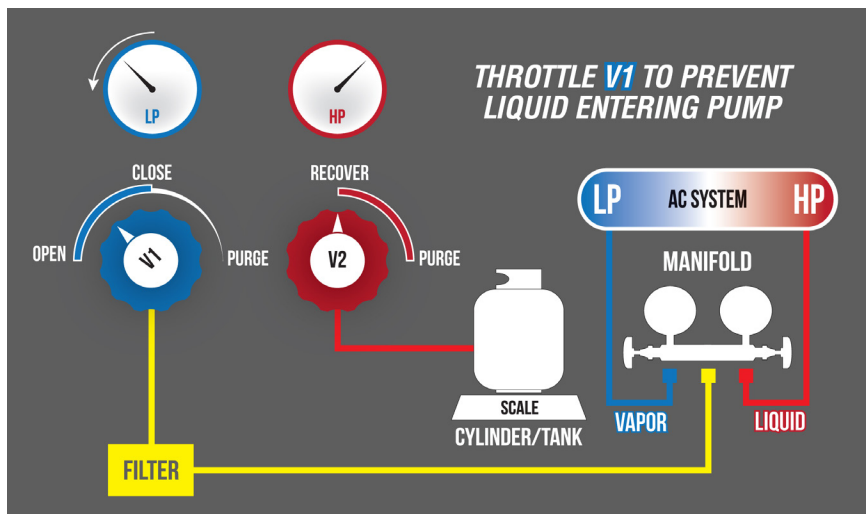

Figure 1 - Setup Procedure for Standard Refrigerant Recovery
- 3 Attach a hose from the discharge valve to the recovery tank. Connect other hoses between system components as shown in Figure 1 on page 9.
NOTE: Make sure all connections are tight, and that the cables and hoses do not interfere with the recovery process (See Figure 1).